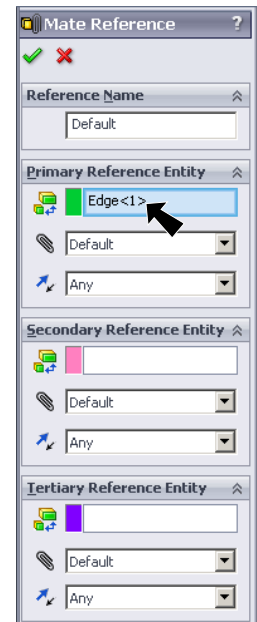

Fig. 15
Step 4. In the Mate Reference Property Manager click OK , **Fig. 15**.